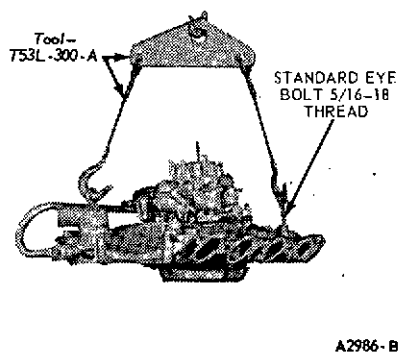

FIG. 37 Removing or Installing Intake Manifold
11. Remove attaching bolts and nuts and remove intake manifold and carburetor as an assembly (Figure 37). If necessary to pry manifold away from cylinder heads, do not damage gasket sealing surfaces.